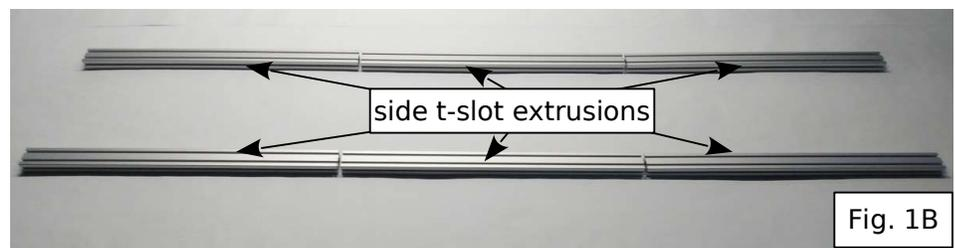

Fig. 1B
Split the remaining side extrusions into two groups, one for the left side of the trailer and the other for the right. If you are assembling a 32B trailer, skip to step 4; otherwise, butt the extrusions of each group end-to-end with the long face of each extrusion facing up (Fig. 1B).
1. Remove the rear axle nut from the left side of the axle (i.e., side opposite the chain). Mount the hitch over the end of the axle or skewer and re-install the nut (Fig. 1A). Put the clear plastic frame protector over the left chainstay. Put a band clamp loosely over the protector. Slide the hooked end of the hitch strut between the band clamp and protector and tighten the clamp (Fig. 1B). Tighten the two screws on the lower end of the hitch using a screwdriver and 10 mm or adjustable wrench (Fig. 1C).